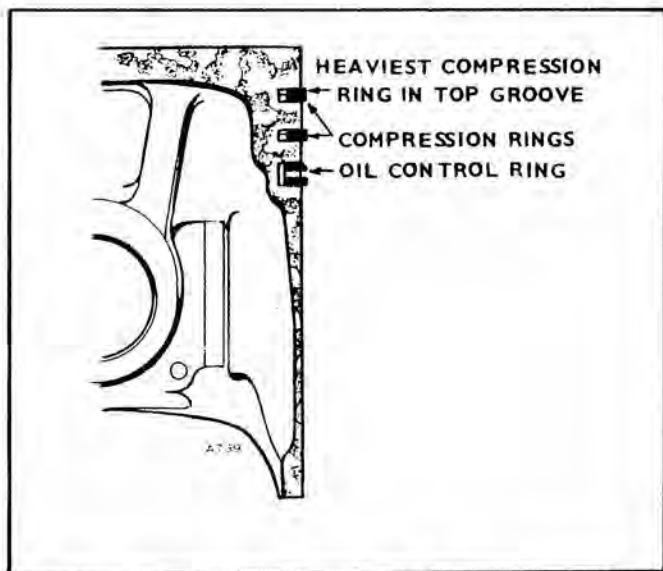

FIGURE 43. PISTON RINGS
3. Install the rings on the pistons starting with the oil control ring (Figure 43). Use a piston ring spreader to prevent twisting or excessive expansion of the ring. Some oil control rings and all compression rings have a dot or the word "top" on one side of the ring to indicate which side faces the top of the piston. Unmarked piston rings can be installed either way. If the oil control ring has a coil expander, install the expander first and then close until the coil ends butt. The joint should be 180° from the gap of that ring.